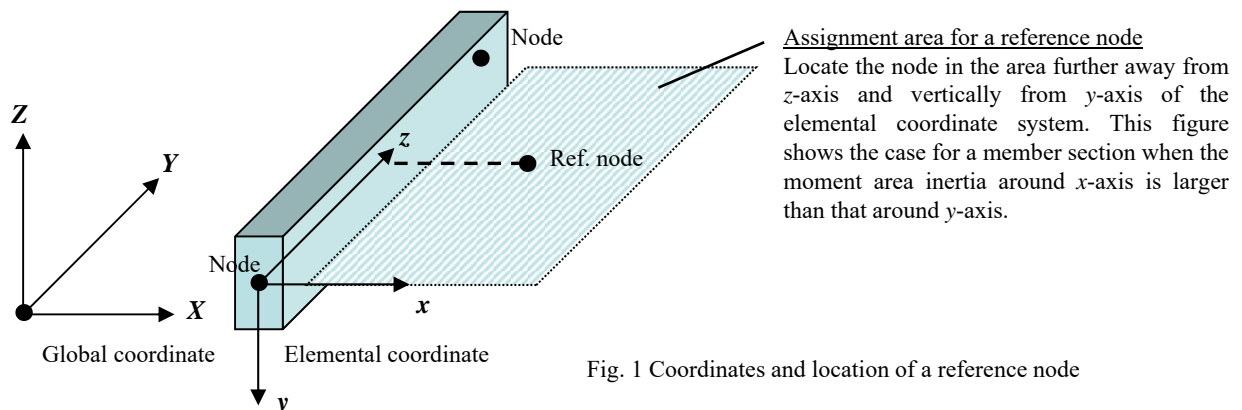

Fig. 1 Coordinates and location of a reference node
4. Fix one reference node per one element and write down the coordinates in input data. (Ref. node sets the direction of elemental section. See Fig. 1.)